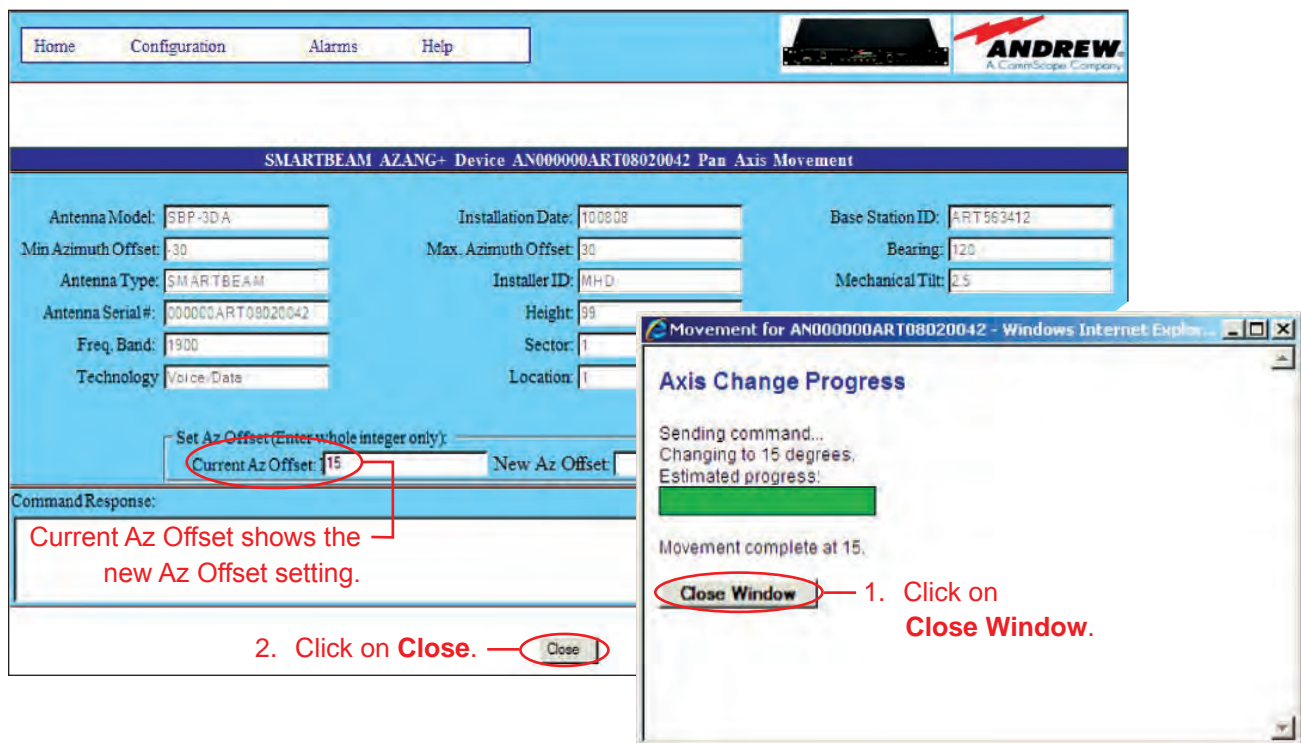

Figure 20-3. Tilt Change Complete For Single Antenna Move.
5. A progress indicator bar will appear in a pop-up window to continually provide an update for as long as the move is in progress. You will be notified when movement is complete. Click on **Close Window** from the pop-up window (Figure 20-3).
6. After the antenna has completed movement to its new az offset, the new value will be displayed in the **Current Az Offset** field and the **New Az Offset** will be cleared in preparation for the next move (Figure 20-3).
At this point, you may click on **Close** (Figure 20-3) to return to the controller's main interface screen (Figure 20-4). Alternately, this process may be repeated to further adjust the downtilt or to reapply changes where movement had previously failed, such as a temporary mechanical jam.